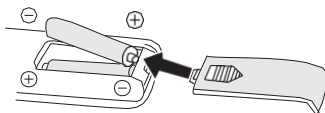

Fig 2
2. Insert the batteries, and make sure that the batteries are placed as shown in the Fig 2.